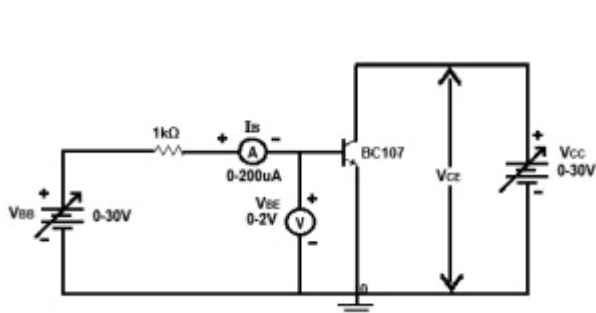

Fig. 21.3 : Circuit diagram for input characteristics
- (1) Connect the electrical circuit as shown in Fig. 21.3.
- (2) Select suitable range of milli-ammeter, voltmeter and power supply.
- (3) Switch on the power supply and adjust the voltage $V_{CE} = 2V$ by varying V_{CC}
- (4) Vary the input voltage V_{BE} in steps of 0.1V and measure the current I_B for each Step.
- (5) Repeat the steps 3 and 4 for V_{CE} values of 5V and 10V.
- (6) Tabulate the readings